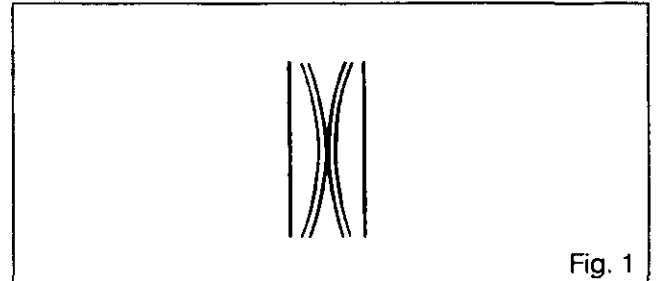
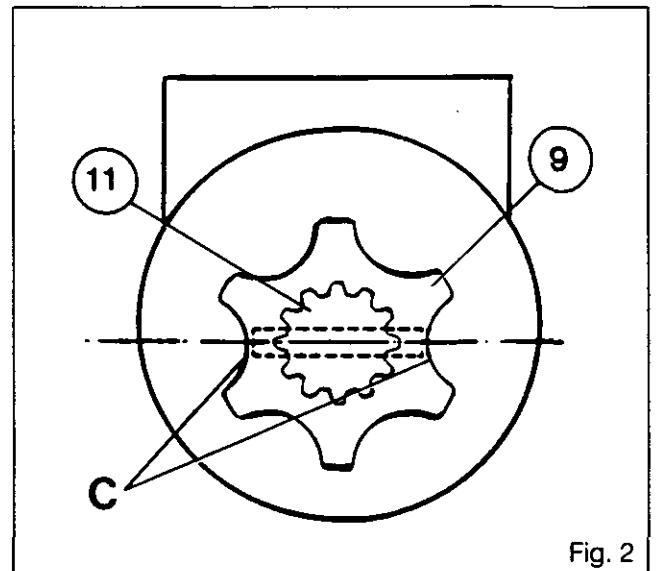
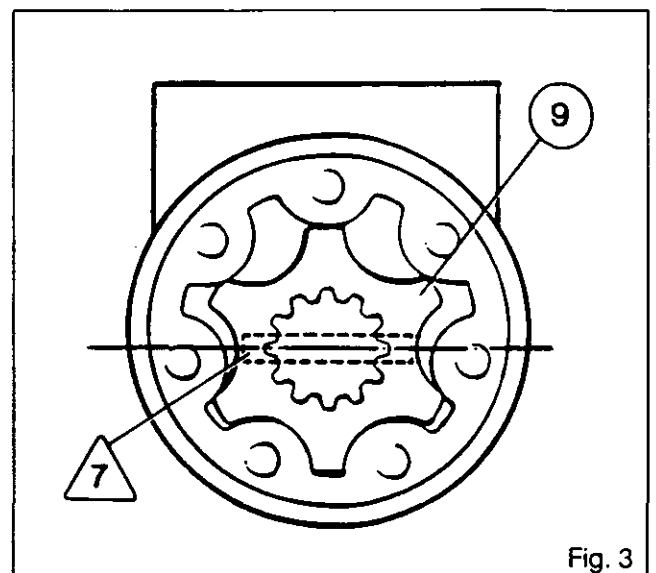

Fig. 1
Fig. 2
Fig. 3
16. Refit the check valve (26).
17. Using special tool MS62A, fit the seal /19\, the O-ring (17) and the kin-ring (15).
18. In the holes for the shock valves (20) place the balls and the springs. Screw in the threaded rings. Fit the seals and tighten the caps.
19. In the hole for the relief valve (18) place the valve and the spring. Screw in the threaded ring. Fit the seal and tighten the cap to a torque of 40-60 Nm.
20. Fit the spool valve (25) into the sleeve (27). Position the centring springs /13\ as shown in Fig. 1 and fit the pin /7\ using special tool MS63..
22. Fit the washers /12\ and (16) with the chamfer of the washer /12\ facing towards the centring springs /13\, and with the needle roller bearing (14) between them.
24. In the receptacles of the suction valves (23) place the two balls and the two pins.
25. In the receptacle of the non-return valve (22) place the ball and screw on the threaded ring.
26. Position the connecting shaft (11).
27. Fit the O-ring (28) and the distributor plate (29).
28. Fit the rotor (9) in such a way that two of the «C» shaped hollows are in the axis of the aperture of the shaft (11) (Fig. 2). Refit the spacer (10).
29. Place the O-rings (5) and (8) on the stator (6).
30. Whilst taking care not to move the rotor (9), fit the stator (6). Then move the stator so that its fastening holes coincide with those of the distributor.
**Note: The rotor (9) and the pin /7\ must be in the position shown in Fig. 3.**
31. Refit the cover plate (4).
32. Refit the screw /2\ (in the position marked upon disassembly) and the screws (1) with their seals (3). Tighten alternately to a torque of 30- 35 Nm.